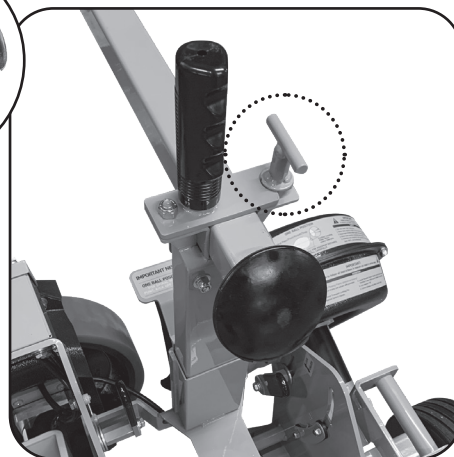

Figure 4 Close latch and tighten wing nut.
IMPORTANT: Lock pin (A) must be removed (See Figure 4, pg. 6) and stored in adjacent hole to left. This will allow machine to pivot horizontally.
4. Remove lock pin and store in adjacent hole to left (See Figure 4).